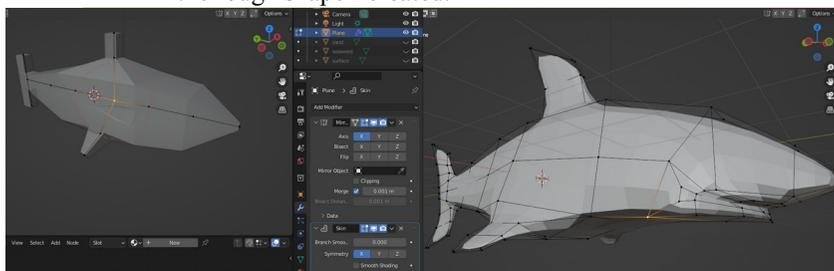

Figure 10-1 Shaping the shark
1. First delete the start cube and add a plane, then in edit mode delete two of the vertices then move the remaining two onto the Y axis by setting snap to absolute grid. Extrude each end forward and backwards then outwards for the tail and fins. Add a mirror and a skin modifier then, finally, use **CTRL-A** to adjust the size of the skin at each vertex. The left of Figure 10-1 shows the rough shape I created.